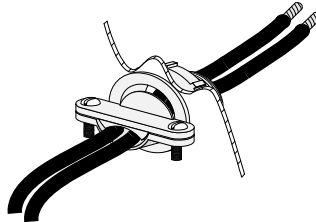

Figure 21. Strain Relief Fitting with Battery Cables
3. Pull one end of each battery cable [positive (+) and negative (-)] through the strain relief fitting (see Figure 21).